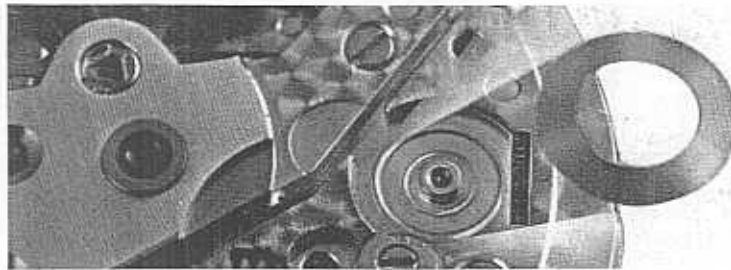

Fig. 8
7. Fit the crown-wheel friction spring (No. 5030), with its convex side facing upwards (fig. 8). Lubricate this spring and the stud of the intermediate crown wheel.